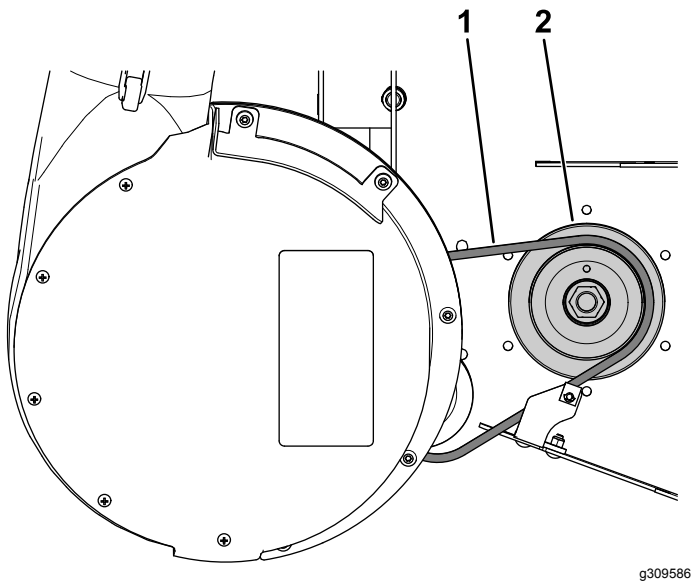

Figure 46
1. Pull back the spring-loaded idler pulley and route the blower belt around the drive pulley (Figure 46).